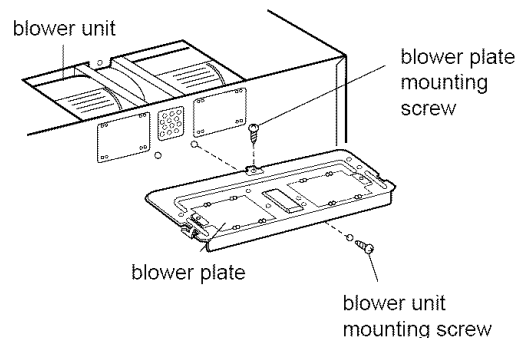

Figure 21
6. Reattach blower plate to microwave oven. Attach with the one blower unit mounting screw and then the one blower plate mounting screw. See **Figure 21**.
- NOTE:** When using Roof venting, you need one blower unit mounting screw. See **Figure 21**.